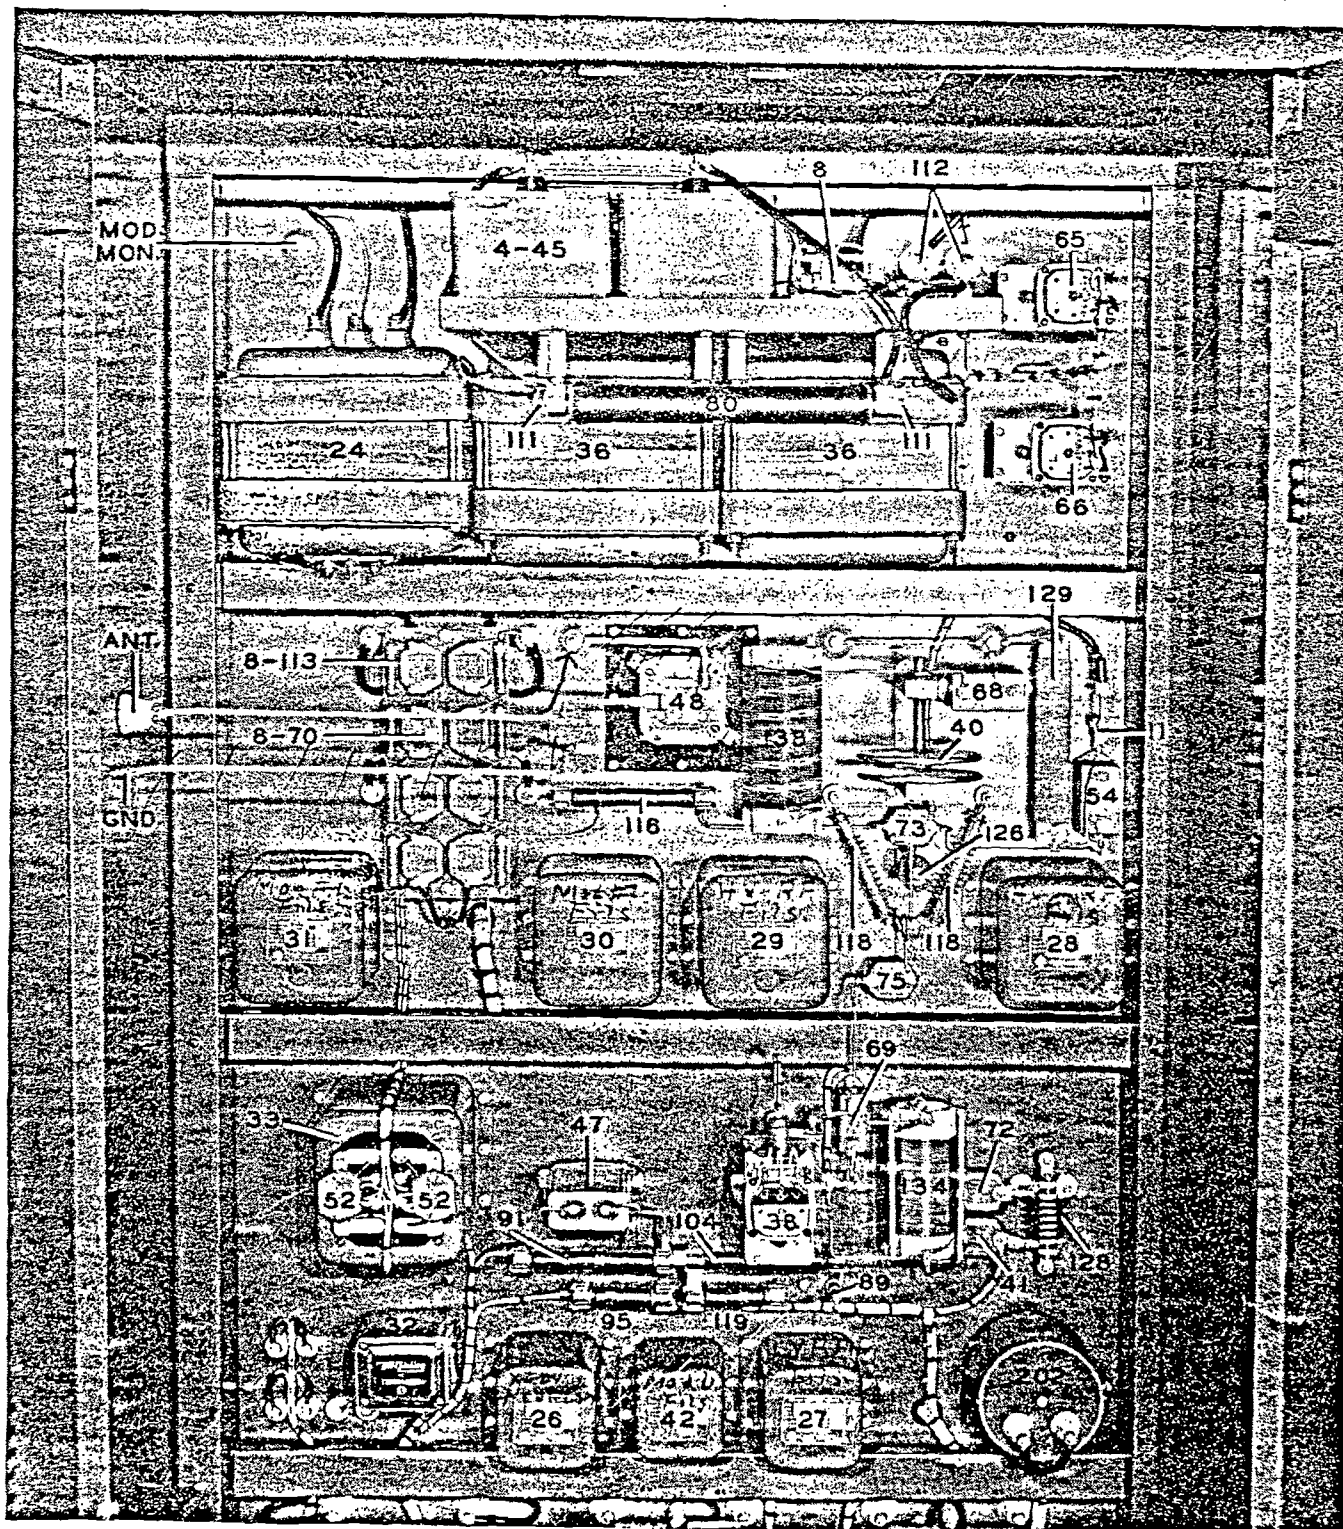

Figure 3-2. 300G Transmitter—Top Rear View
Refer to Figures 3-2, 3-3 to simplify placement of components that were removed when the equipment was prepared for shipment. The vertical chassis has been securely braced for shipment and before the braces are removed the bolts provided for securing the chassis in the cabinet should be inserted and tightened. When the vertical chassis has been secured in place, the high voltage transformer should be placed over the locating pins provided in the bottom of the transmitter cabinet. The modulation transformer and the modulation choke should be placed and fastened securely with the stud bolts provided for the purpose. All leads have been properly marked with tags and little difficulty should be had in making the proper connections.
(6) ANTENNA TERMINATION. — The 300G Transmitter is intended for use with an external antenna tuning unit to which it is connected by means of a concentric transmission line. The transmission line may be carried up the cabinet channel and the outer conductor or ground connection fastened securely to the transmitter ground terminal. The inner conductor of the line should be connected to the 1¼" ceramic bushing terminal located near the top of the cabinet.
(7) MONITORING CONNECTIONS. — The monitoring connection should be made to the Isolantite feedthru located near top of 1100N Vertical Chassis. (Refer to figure 3-2 for exact location of terminal.) A twisted pair should be used connecting one wire to terminal and the other to any convenient chassis ground.